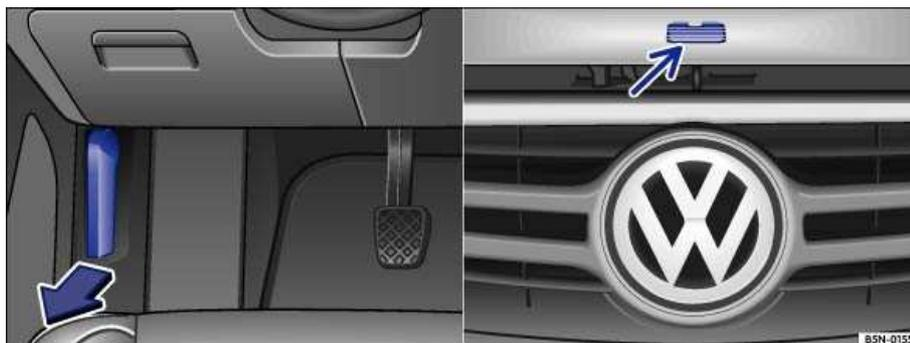

Fig. 4 Section of the driver's side footwell and from the radiator grille: Unlocking and opening the engine hood.
- Pull the inside hood release in the direction of the arrow ⇒ Fig. 4. The hood is released from its latch by a spring mechanism ⇒ .
- Pull the engine hood release lever ⇒ Fig. 4 (arrow) and open the engine hood.